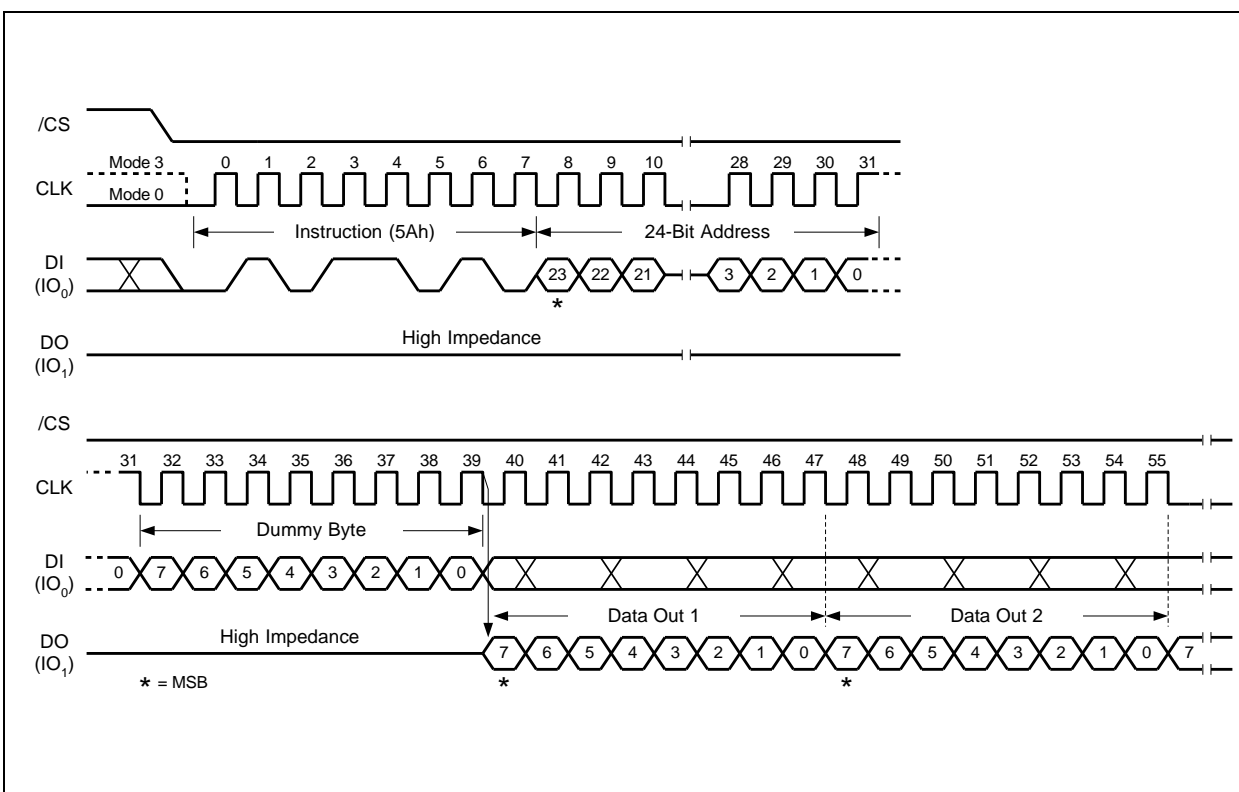

Figure 34. Read SFDP Register Instruction Sequence Diagram
The Read SFDP instruction is initiated by driving the /CS pin low and shifting the instruction code “5Ah” followed by a 24-bit address (A23-A0)(1) into the DI pin. Eight “dummy” clocks are also required before the SFDP register contents are shifted out on the falling edge of the 40th CLK with most significant bit (MSB) first as shown in Figure 34. For SFDP register values and descriptions, please refer to the Winbond Application Note for SFDP Definition Table.